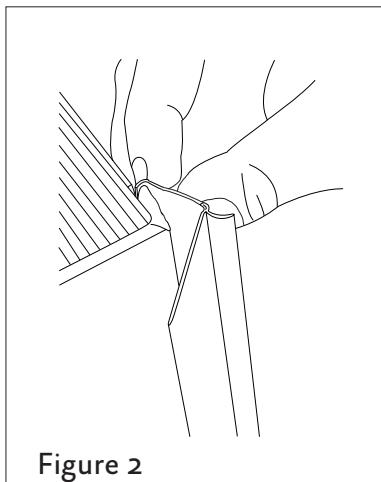

Figure 2
2. Fix the gasket to the dishwasher, inserting it in the seat on the sides towards the front (see Figure 2).